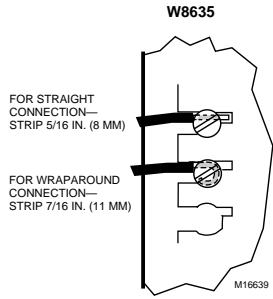

Fig. 3. Wiring the W8635A terminals.
1. Loosen the terminal screws on the W8635A and connect the system wires. See Fig. 3.